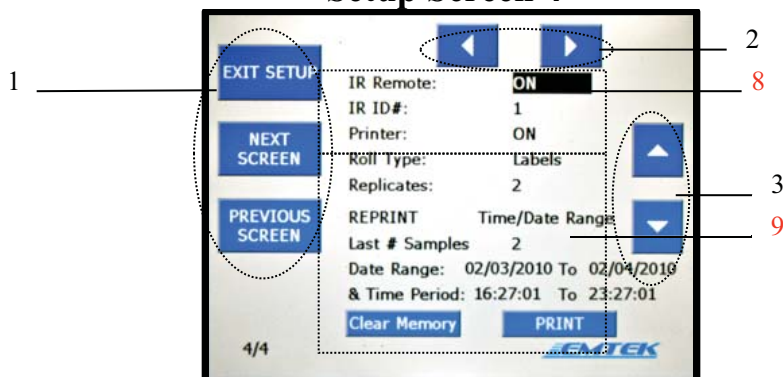

Fig 7.2.4 Screen 4
6. If a label/paper output is desired, ensure that the printer is turned on (Fig 7.2.4, #8) and that the unit has and adequate supply of paper/labels (Section 7.5).